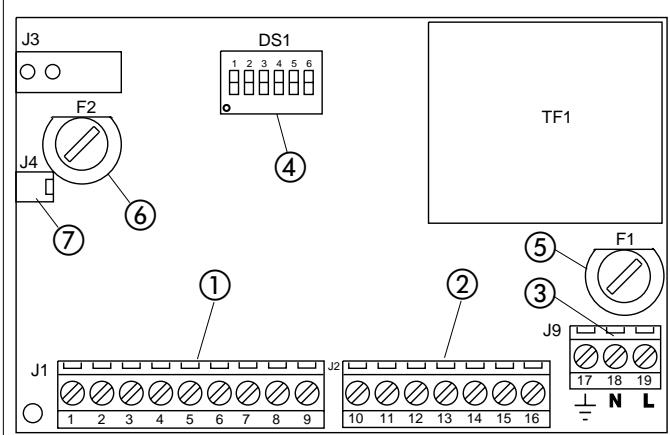

Fig. 19
Fuses	N. 2 (see fig.19)
① **J1 Terminal block:** low voltage (fig. 19) used to connect all accessories (see table 3).
(2) J2 Terminal block (fig. 19)
(3) J9 Terminal block: (fig. 19)